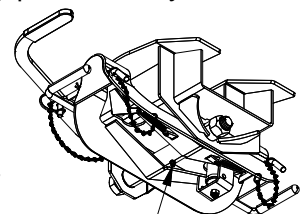

Figure F1: Underside view of Coupler Head
- Grease the saddle through the grease zerk approximately every six months with multi-purpose grease. This allows the coupler to pivot freely, see Figure F1.